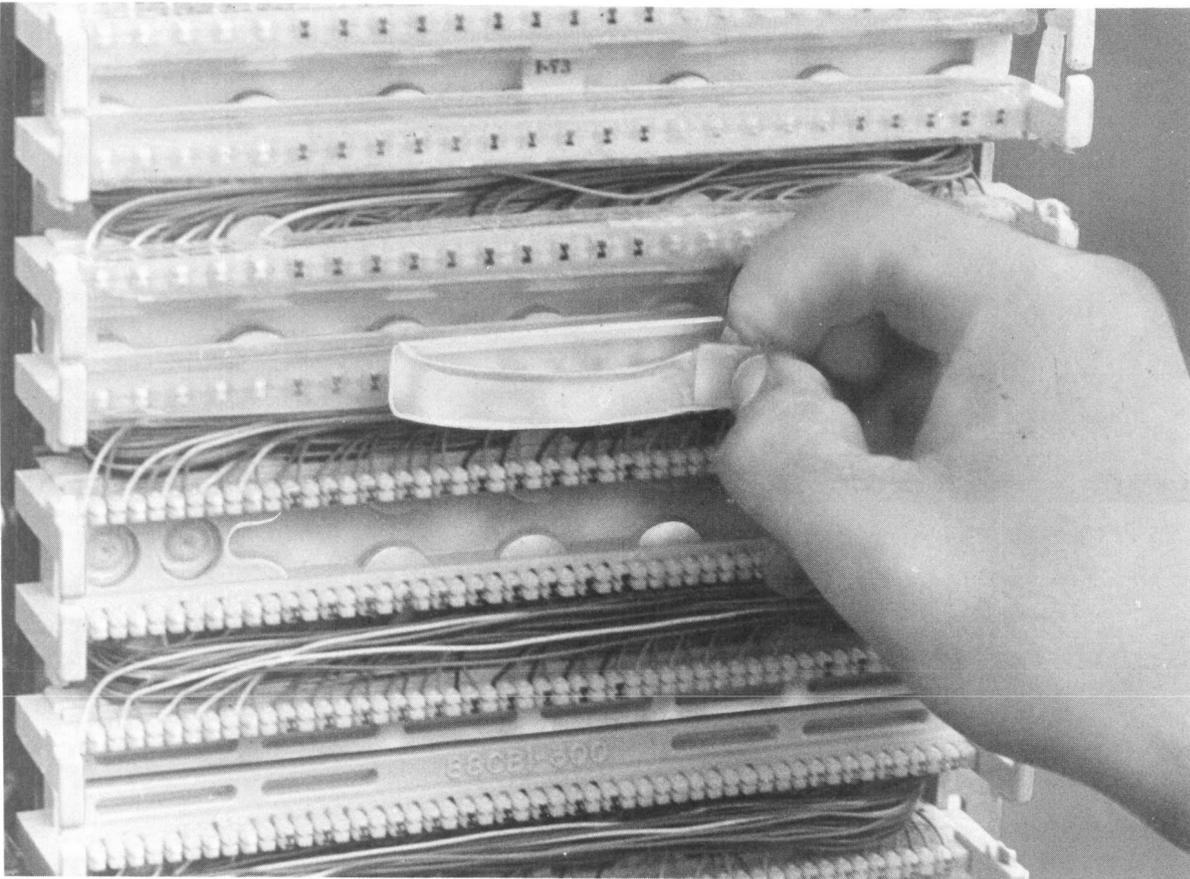

Fig. 22—Removing Tape From Adapter
9.03 Remove tape as shown in Fig. 22.